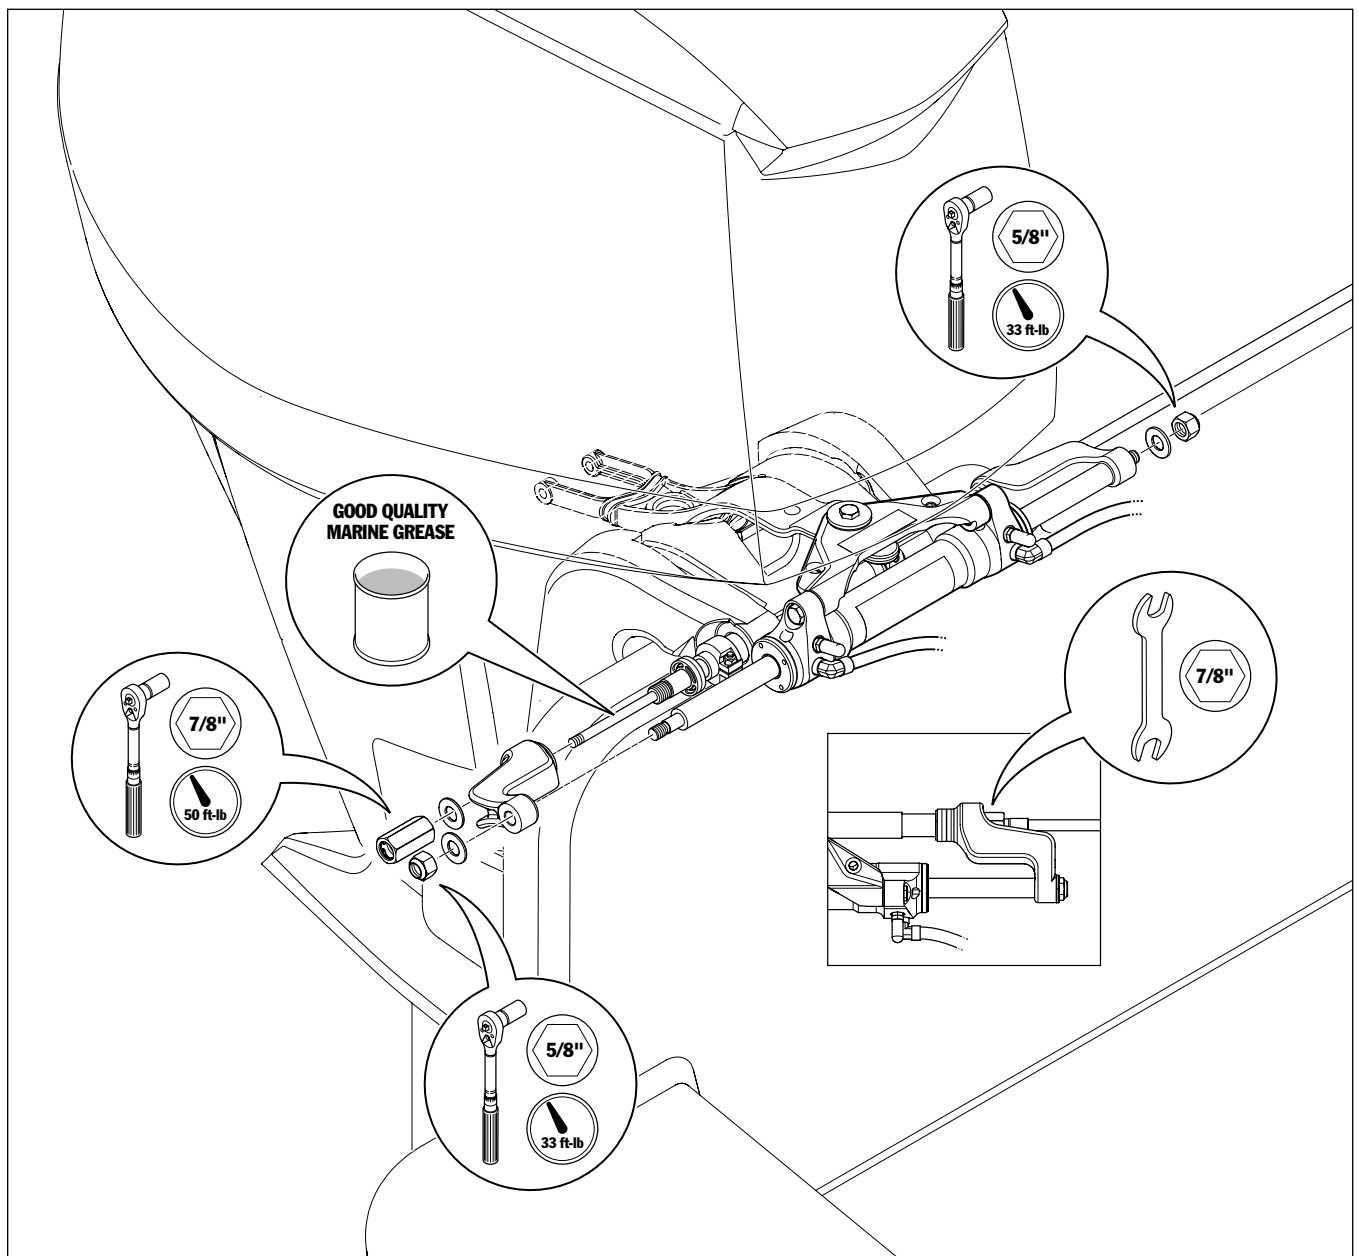

Figure 9.
- Using a 7/8" open ended wrench, and a 7/8" deep socket, tighten support bracket nuts and torque to 50 ft-lb (see figure 9 for placement of wrench and socket).